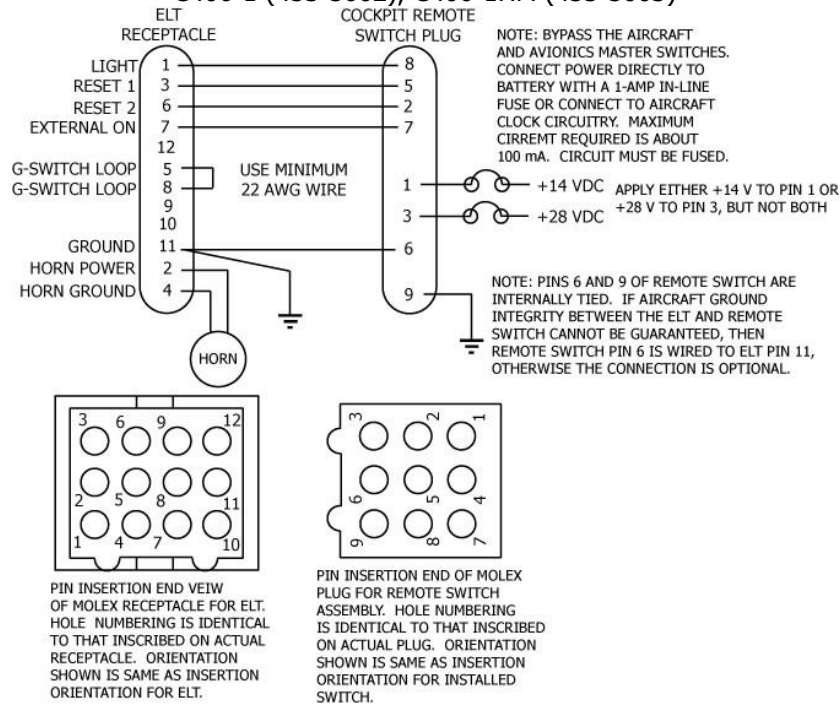

Figure 21 Remote Switch Harness Wiring Diagram
- 2) Fabricate a 5-wire harness long enough to reach from the ELT to the cockpit remote switch, allowing enough slack to provide a drip loop at the ELT end and a service loop at the cockpit remote switch end. See Figure 21 on page 51.
- 3) Three additional wires are required. See Figure 21 on page 51.
- 4) Insert the wiring pins in the harness ELT 151-5012 Molex 12-pin receptacle. See Figure 21 on page 51.
- 1) Insert the wiring pins in the 151-5009 Molex 9-pin cockpit remote switch plug. See Figure 21 on page 51.
- 1) Connect the ground wires to the airframe in accordance with the aircraft manufacturer's written instructions or as described in AC 43.13-1, Chapter 11, § 15. See Figure 21 on page 51.